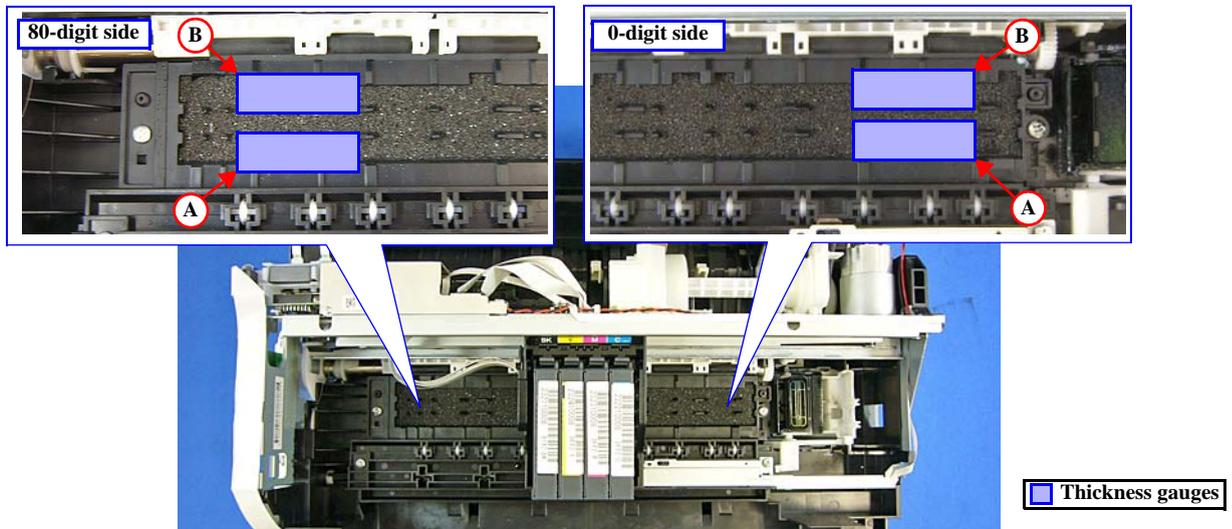

Figure 3-1. Position of the Thickness Gauge
2. Place the thickness gauges (1.6 mm) on the position A shown in Figure 3-1.
4. Move the CR Unit to the center, and place the thickness gauges (1.6 mm) on the position B shown in Figure 3-1.
6. Move the CR Unit to the center, and place the thickness gauges (2.0 mm) on the position A shown in Figure 3-1.
8. Move the CR Unit to the center, and place the thickness gauges (2.0 mm) on the position B shown in Figure 3-1.